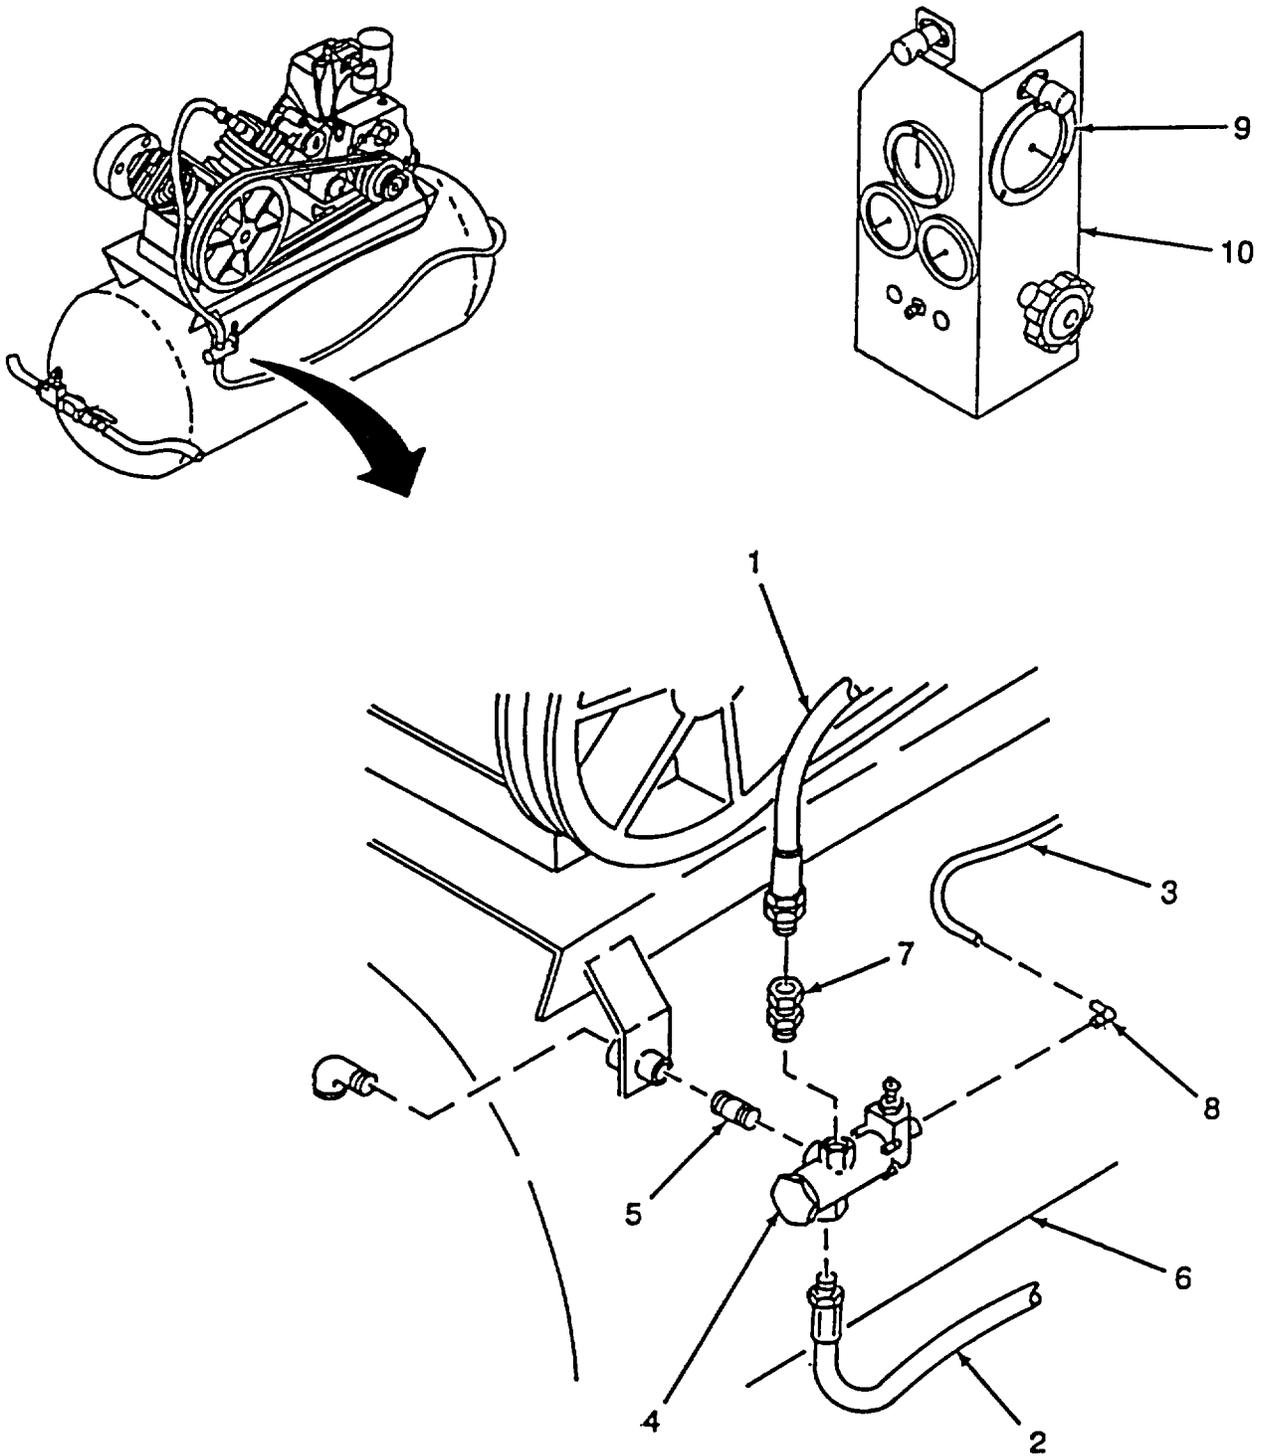

Figure 4-29. Unloader Valve
a. Removal. (Refer to Figure 4-29).
- (1) Open condensate drain valve on reel cabinet to relieve tank pressure.
- (2) Verify that pressure has been relieved by reading the air pressure gauge. It should read zero.
- (3) Disconnect braided hose assembly (1), braided hose assembly (2), nylon tube (3) from unloader valve (4). Braided hose assembly (2) must be disconnected from both ends.
- (4) Remove unloader valve (4) and nipple (5) from tank assembly (6).
- (5) Remove nipple (5), swivel adapter (7), push-in fitting elbow (8) from unloader valve (4).